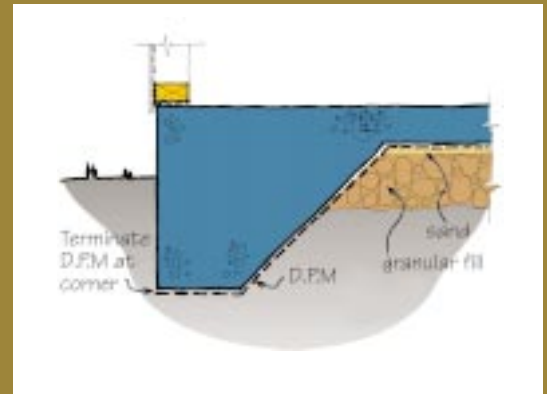

Figure 1: Damp-proof membrane stopped at foot of foundation wall
- On well-drained sites the DPM can terminate at the outer edge of the footing (the risk of moisture migrating in from the untreated outer face of the footing is low). See Figure 1. Bulletin 333 from BRANZ gives more detailed guidance on this.